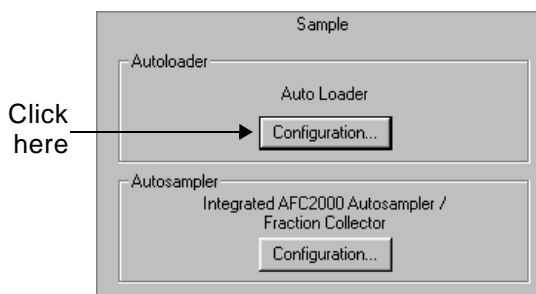

Figure 4-4 Autoloader Configuration
2. In the Sample section of the Configuration dialog box (Figure 4-4), click the **Configuration** button under **Autoloader**.